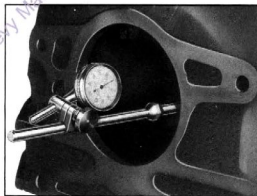

Fig. 6—Checking Transmission Pilot Hole Run-Out
3. Check the run-out of the transmission pilot hole in the clutch housing, Fig. 6. This should be within .008" indicator reading.